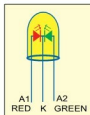

Fig. 3: Pin details of bi-colour LED
LED matrix. Fig. 3 shows the pin-out of a bi-colour LED. To make the LED glow, cathode (K) terminal should be connected to ground, and anode (A1 or A2) to Vcc. Bi-colour LED is similar to a single-colour LED; the only difference is that it houses two LEDs (one red and the other green) in a single package. Bi-colour LEDs have three leads—a common cathode to which both the LEDs are connected internally, and two anodes (one for each colour).
Typically, all the anode and cathode lines are at high impedance. However, an LED can be selected and lit up with the desired colour by setting the corresponding anode line high and cathode line low. For instance, in Fig. 3, if green anode (A2) line is set high and the cathode (K) line is set low, the LED gets illuminated with green colour.